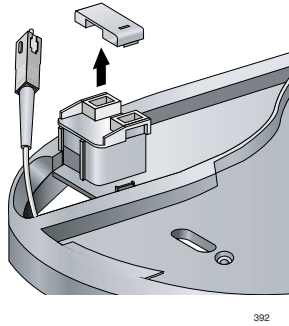

Figure 16. Removing the Cover from the Post
12. Remove the cover from the post, as shown in Figure 16.